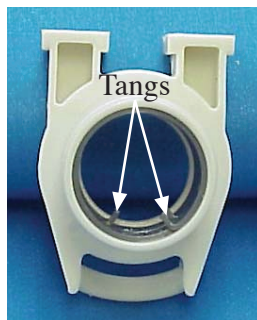

Figure 3
**Step 1.** Insert 2 springs into the housing as shown in Figure 3. The tangs on one spring should be in line with the tangs of the other spring.